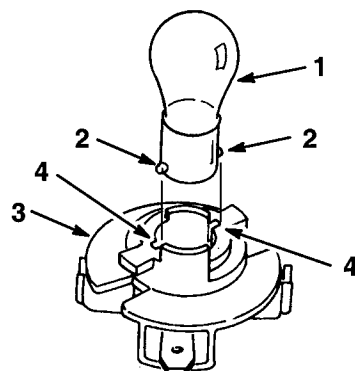

Figure 16
4. Push and rotate the bulb counterclockwise until it stops (approx. 1/4 turn) and remove bulb from the bulb holder (Fig. 16).
1. The bulb has metal pins on the side of its base. Align the pins with the slots in the bulb holder and insert the base into the holder (Fig. 16). Push and rotate the bulb clockwise until it stops.